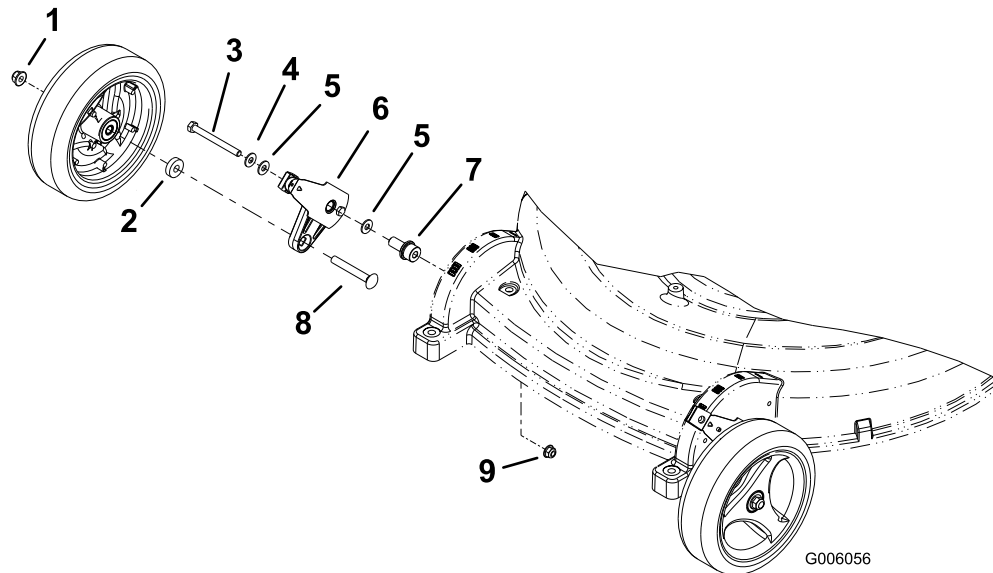

Figure 1
2. Remove the pivot arm assemblies from the mower housing and discard the locknuts (5/16-inch) (Figure 1).
4. Assemble the pivot arm assemblies (including the parts provided in the kit) as shown in Figure 1.
5. Install the updated pivot arm assemblies to the mower housing (Figure 1).
6. Install the front wheels using the locknuts (3/8 inch) that you previously removed (Figure 1).